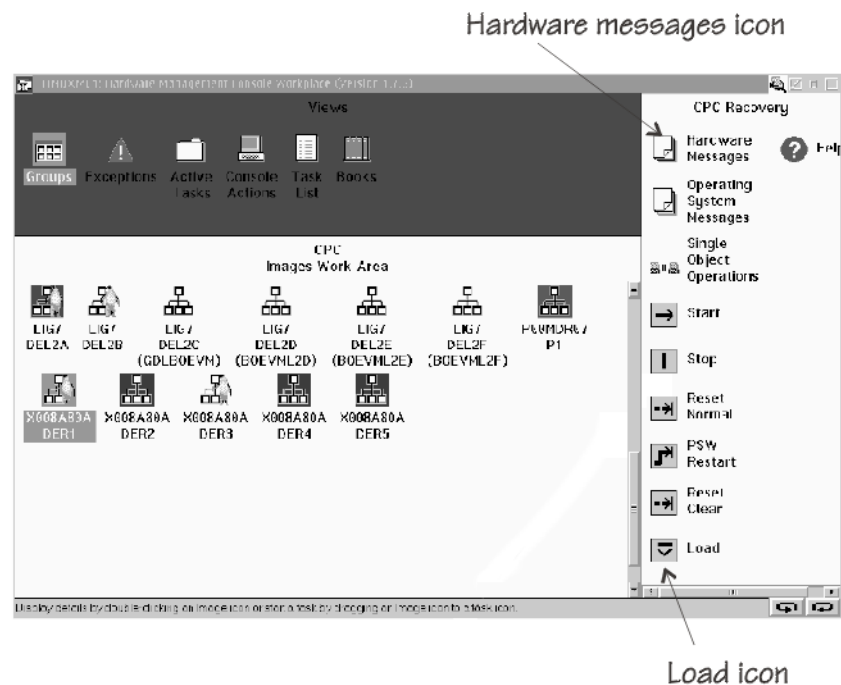

Figure 68. CPC Images Work Area on the HMC
2. Click the Images icon in the “Groups Work Area” to display the “CPC Images Work Area” with all defined images (Figure 68).